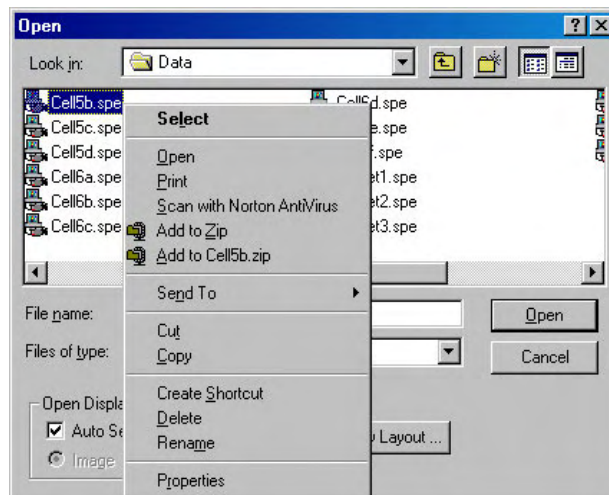

Figure 42. Right-click File Operations menu
2. Position the mouse cursor on the name of the file you want to delete and click the *right* mouse button. This will open the “right-click” File operations menu, as shown in Figure 42.